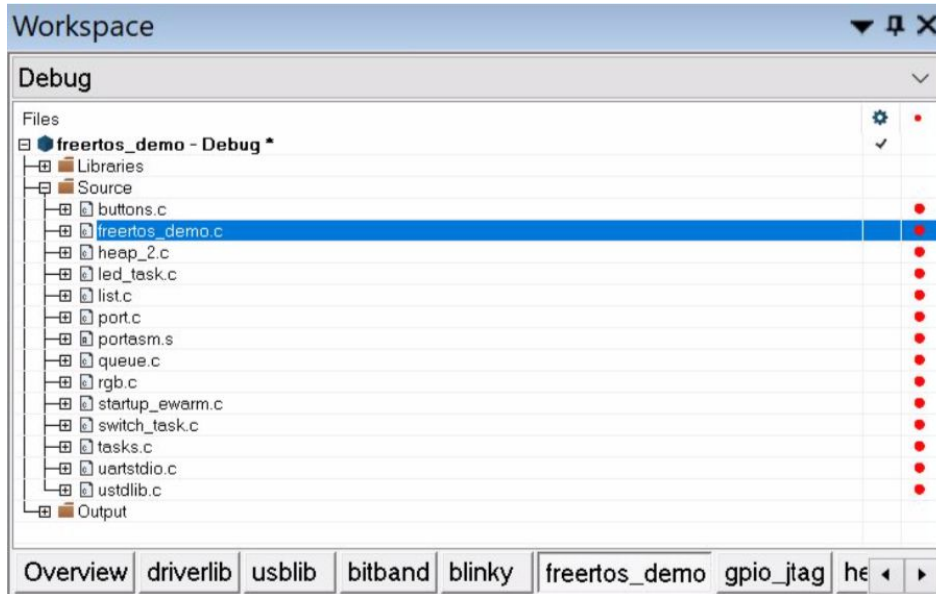

Figure 7: The ek-tm4c123gxl IAR Workspace with the freertos\_demo project open
5. Your window should now look similar to the screenshot in Figure 7.